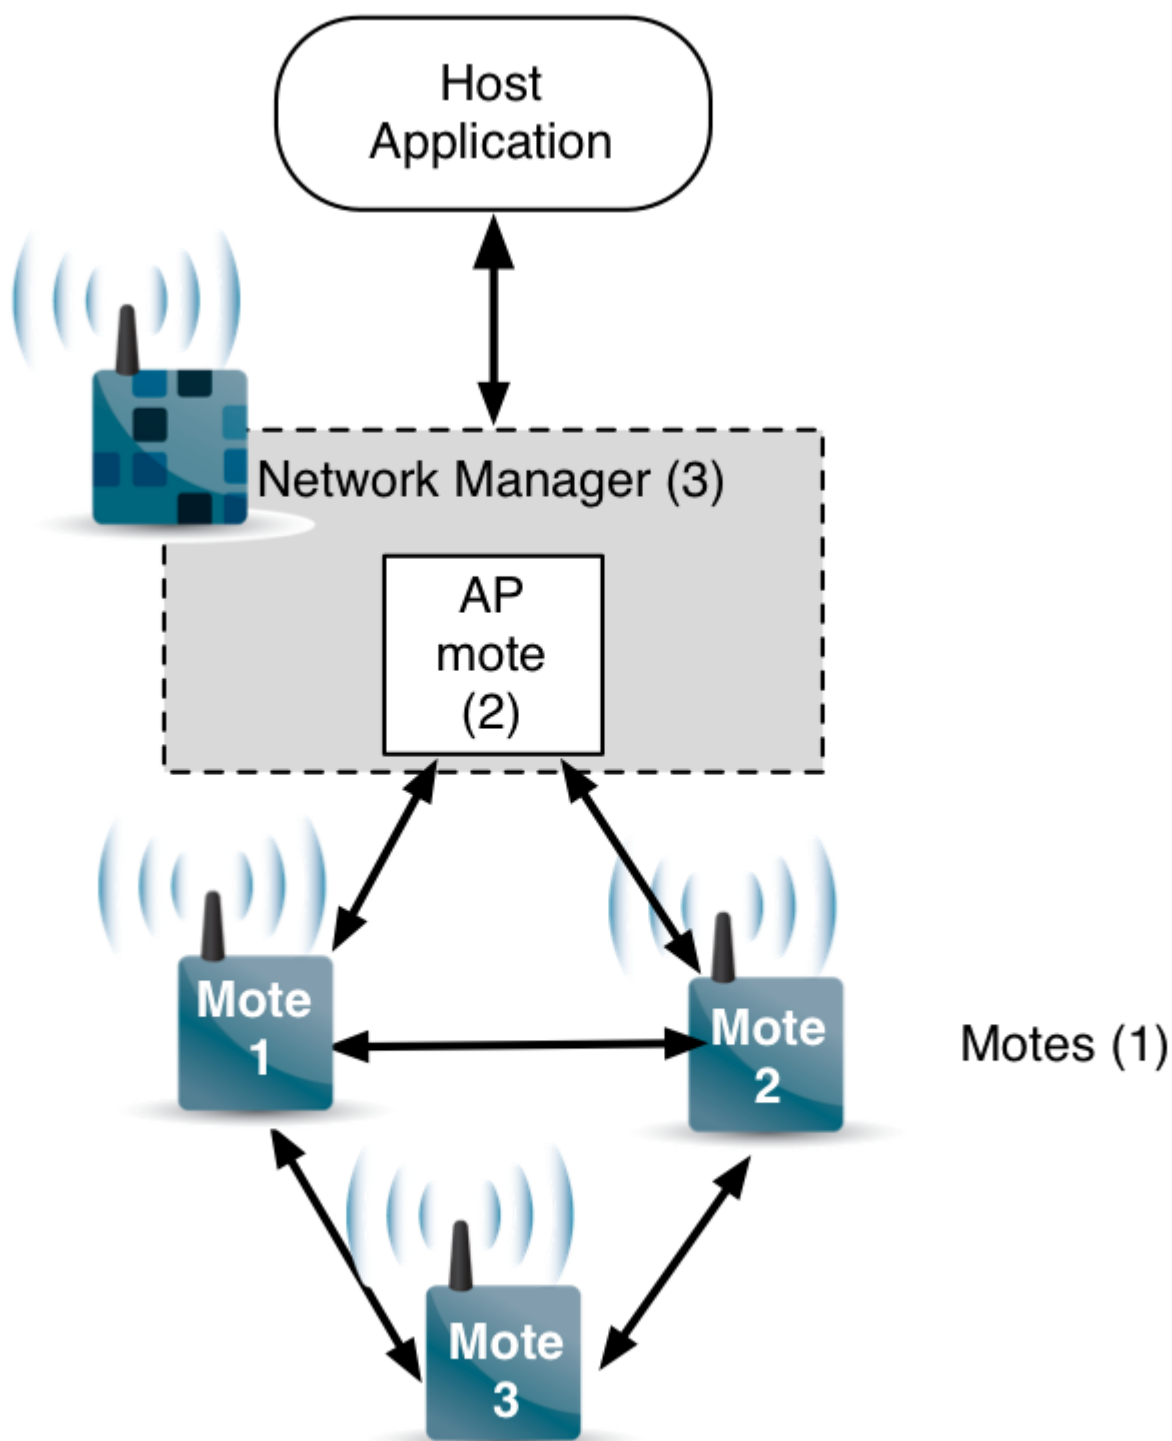

Figure 2 - A Simple Network
A network begins to form when the Network Manager in Figure 2 instructs the access point mote(s) (AP) to begin sending *advertisements* - packets that contain information that enables a device to synchronize to the network and request to join. This message exchange is part of the security handshake that establishes encrypted communications between the manager or application, and mote. Once motes have joined the network, they maintain precise synchronization through time correction messages sent between connected neighbors.